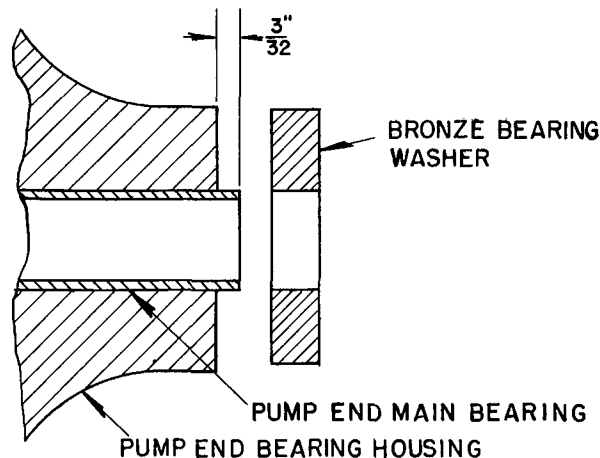

FIG. 43 - PUMP END MAIN BEARING POSITION
2. Line up the hole in the bearing with the oil port in the housing. Using the puller shoulder and a jackscrew or press, press the bearing in place. Let the bearing protrude above the housing  $3/32'' \pm 1/64''$  so that it will support the bronze bearing washer. (See Fig. 43.)